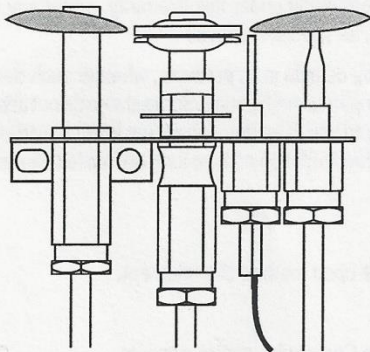

Figure 29. Pilot Burner
2. Adjust pilot screw to provide properly sized flame as shown in figure 29).